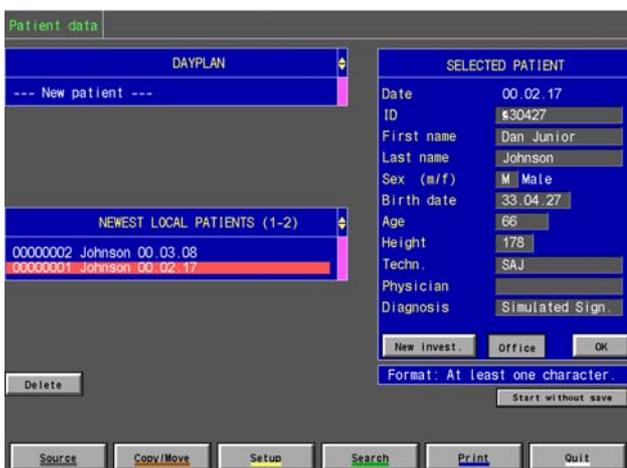

Figure 4 New Invest and OK Buttons. Vertical Scroll Bar.
When the Patient data has been entered, a button appears in the lower right of the Selected Patient box, see Figure 4
- Use the vertical scroll bar to the right, to scroll through the listed patients. The scroll box moves in up- and downward directions, see Figure 4
- Then click , or  to proceed to select a test, see Figure 4